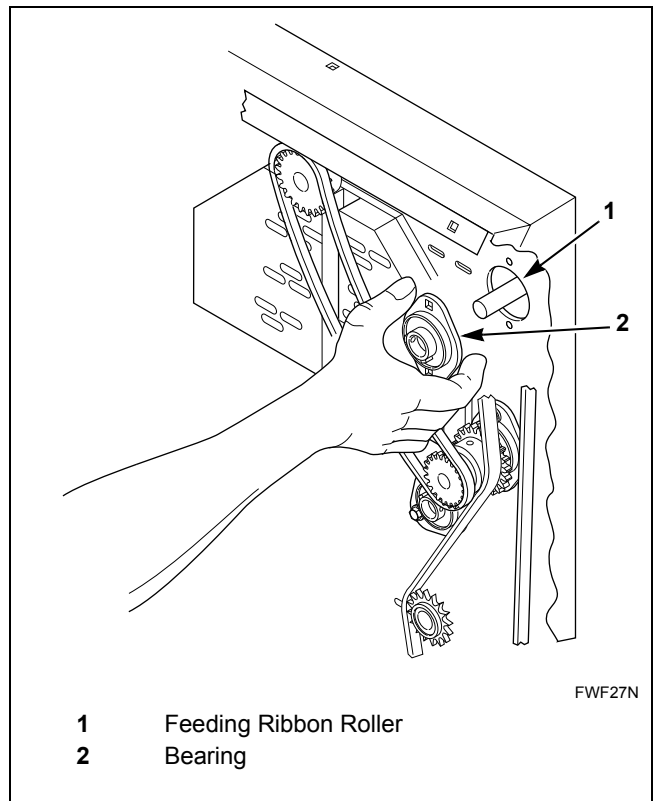

Figure 33
- Remove bearing by pressing left. Refer to *Figure 33*.